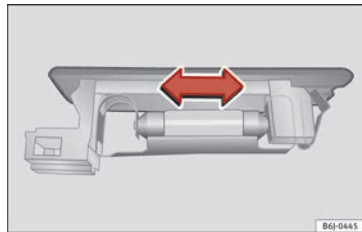

Fig. 123 Boot light.
- Press the bulb sideways and remove it from its housing »» Fig. 123.